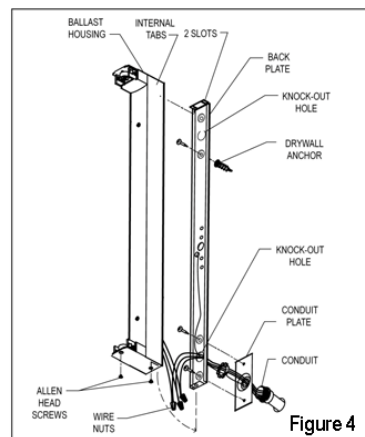

Figure 4
- 3) Bring TOP COVER with the internal assembly up to STEM and insert STEM through both TOP COVER and internal assembly. Tighten STEM to TOP COVER and internal assembly with HEX NUT from the AIRCRAFT CABLE ADJUSTER (fig. 4). Tighten the LOCKING RING.
(FIG. 4)
(Fig. 4)